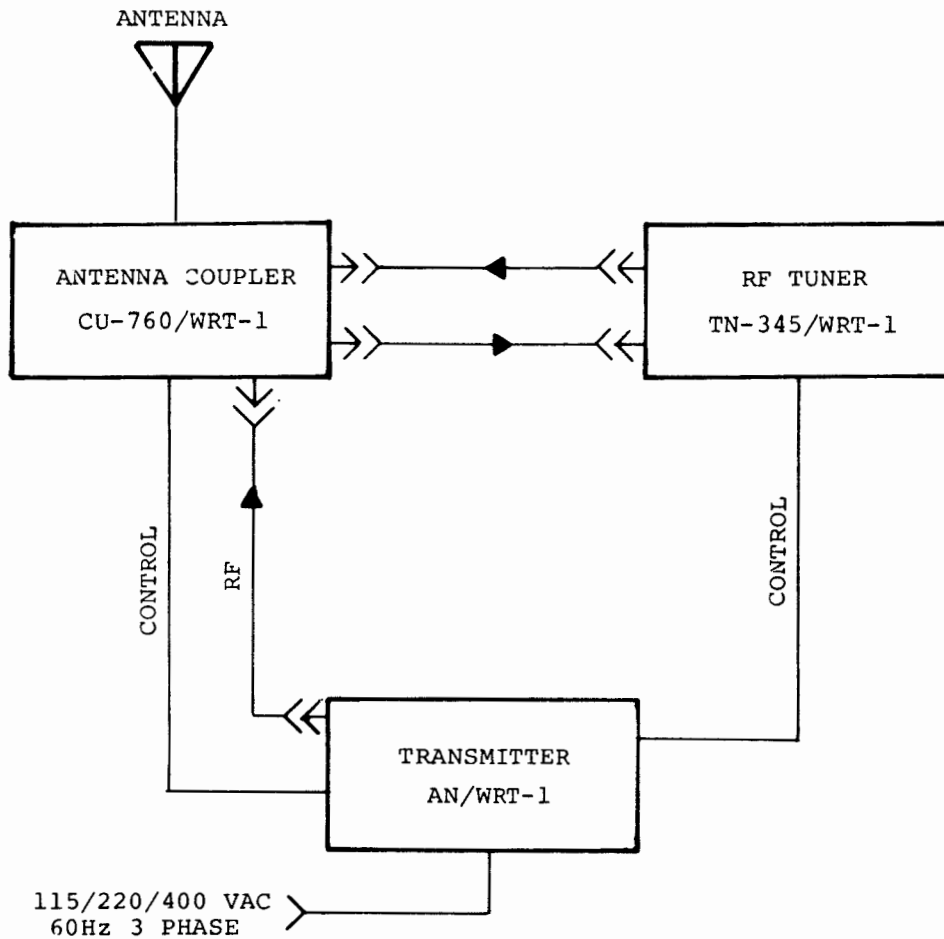

Figure 6-22 RF Tuner TN-345/WRT-1 and Antenna Coupler CU-760/WRT-1
c. INTERCONNECTION DIAGRAM. - See Figure 6-22.